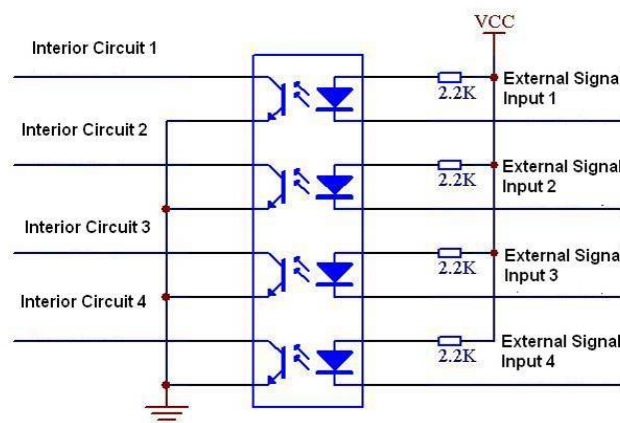

Figure 4-3
- Please refer to Figure 4-3 for alarm input module information.